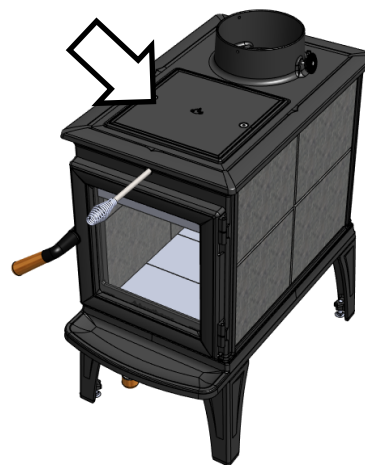

Figure 17 – Catalyst Access Location
**LOW BURN:** Move the air control lever all the way inward toward the stove. (See figure 17). This closes the air shutter to its minimum opening. A low burn rate over extended periods is not advisable as it can promote the accumulation of creosote. Inspect the venting system frequently if using low burn rates consistently.